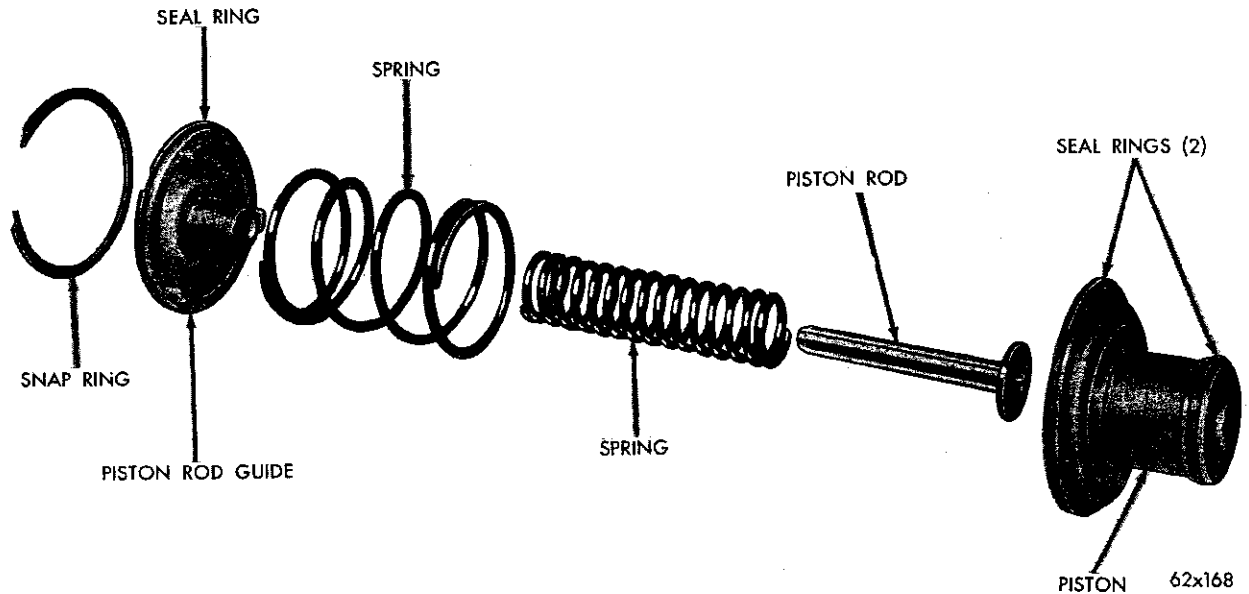

Fig. 79—Kickdown Servo (Disassembled View)
Figure 79 shows a disassembled view of the kick-down servo assembly.
(1) Carefully push the servo piston into the case bore. Install the piston rod, the two springs and the guide (Fig. 79).
(2) Compress the kickdown servo springs by using Engine Valve Spring Compressor Tool C-3422, then install the snap ring.